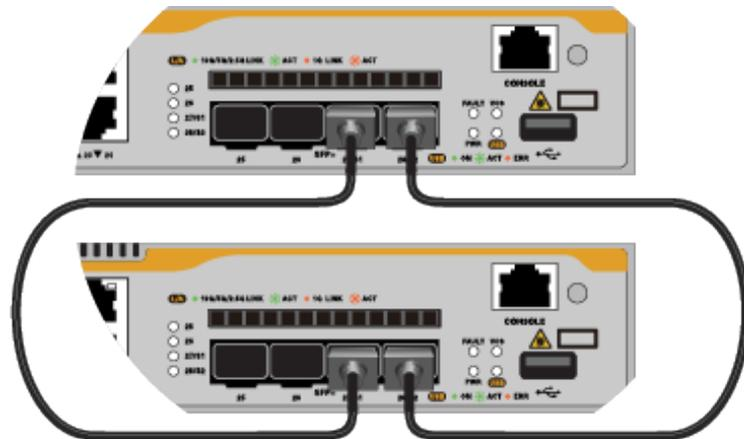

Figure 16. Stack Trunk Examples with S1 and S2 Ports
- ❑ Figure 16 on page 33 illustrates a stack of two x250-28XTm switches with ports 27(S1) and 28(S2) for trunk ports.